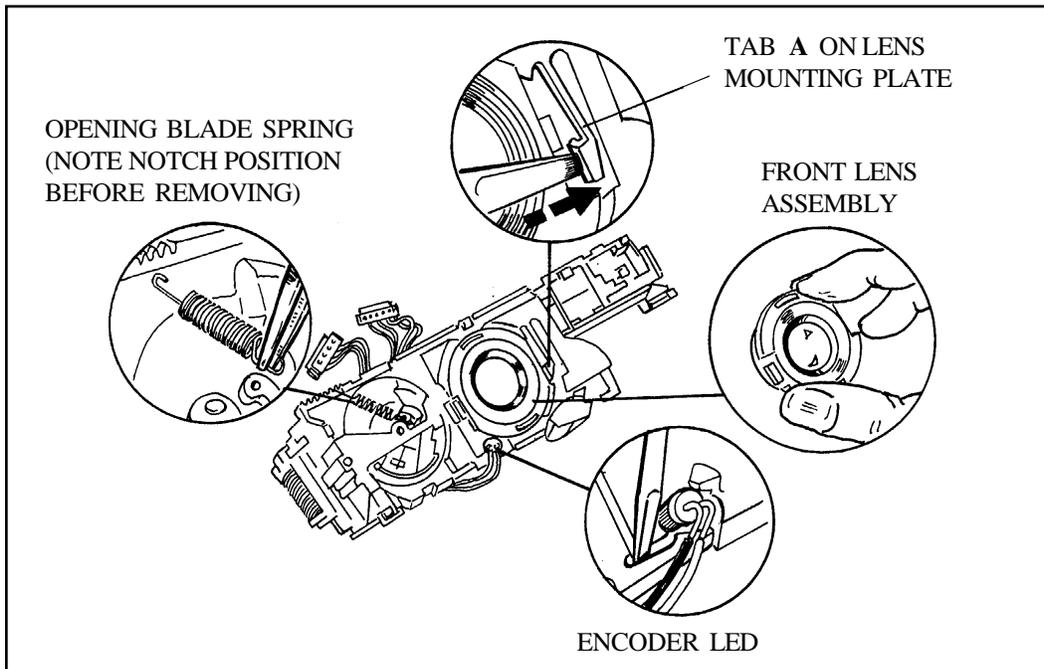

Figure 3-37. Removing Front Lens, Encoder LED and Opening Blade Spring
- a. Using a greenstick, press tab **A** on the Lens Mounting Plate to the right (Figure 3-37), to release the Front Lens Assembly. Remove the Front Lens Assembly, being careful not to smudge or scratch the Lens (wearing lintless cotton gloves is recommended).
- b. Remove the Encoder LED from the Lens Mounting Plate (it may be epoxied in place) (Figure 3-37).
- c. With tweezers, unhook the upper end, then the lower end of the Opening Blade Spring and remove it (Figure 3-37).